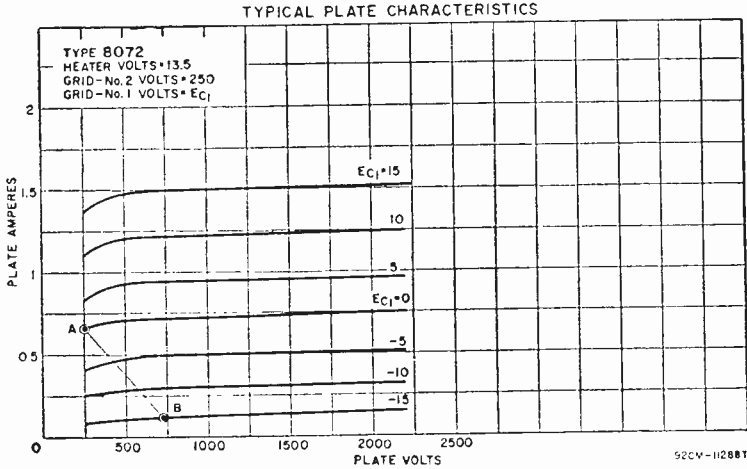
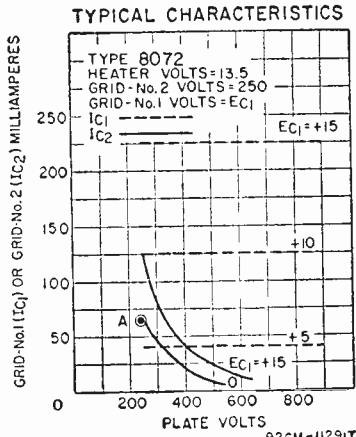

Fig. 46
Fig. 47
The operating conditions for a class AB1 linear rf amplifier used in single-sideband service can be estimated from the load line plotted on a set of plate characteristics. The typical plate and grid-No.2 characteristic curves shown in Figs. 46 and 47 are used in the following
(3) Select a value of zero-signal plate current ( $I_{b0}$ ) between 1/6 and 1/10 of  $I_{bmax}$  found in (2). Locate  $I_{b0}$  at selected  $E_b$  and construct a load line to the point found in (2). In general, the
(5) Determine the grid-No.1 bias ( $E_{c1}$ ) from graph at the point of zero signal found in (3).
(6) DC plate current at peak of envelope ( $I_{b0}$ ) is approximately equal to  $I_{bmax}/3$ .
(7) Average dc plate current ( $I_1$ ) is equal to  $I_{b0}/1.4$ .
(8) Determine peak grid-No.2 current ( $I_{c2max}$ ) from Fig. 47 at conditions in (2).
(9) DC grid-No.2 current at peak of envelope ( $I_{c20}$ ) is approximately equal to  $I_{c2max}/4$ .
(10) Average grid-No.2 current ( $I_{c2}$ ) is approximately equal to  $I_{c20}/1.4$ .
(11) Average grid-No.2 dissipation ( $P_{r2}$ ) is approximately equal to  $E_{c2} \times I_{c2}$ .
(12) Peak Envelope Power input ( $P_{110e}$ ) is equal to  $E_b \times I_{b0}$ .
(13) Peak Envelope Power output (PEP) is equal to  $(I_{bmax}/4) (E_b - E_{bmin})$ .
(14) Average Plate Dissipation ( $P_p$ ) is equal to  $0.7 P_{110e} - 0.5 PEP$ .
(15) Average Power Output ( $P_o$ ) is equal to  $PEP/2$ .
(16) Effective rf load resistance ( $R_p$ ) is equal to  $2(E_b - E_{bmin})/I_{b0}$ .
(1) The plate voltage is selected to be 700 volts; grid-No.2 voltage, 250 volts.
(2) On Fig. 46 plot the maximum-signal point at knee of  $E_{c1} = 0$  curve (point A). Read  $I_{b_{max}} = 0.65$  ampere. Locate  $E_{b_{min}}$  at 250 volts.
(4) On Fig. 46 plot the minimum-signal point at  $E_b = 700$  volts and  $I_{b_0} = 0.10$  ampere (point B).
(5) On Fig. 46 read  $E_{c1}$  at  $-15$  volts at minimum-signal point B.
(6) Calculate:  $I_{b_e} = I_{b_{max}}/3 = 0.650/3 = 0.22$  ampere.
(7) Calculate:  $I_b = I_{b_e}/1.4 = 0.22/1.4 = 0.16$  ampere.
(8) On Fig. 47 locate point A at  $E_b = 250$  volts and  $E_{c1} > 0$  on grid-No.2 current curves. Read  $I_{c_{2max}} = 0.065$  ampere.
(9) Calculate:  $I_{c_{2e}} = I_{c_{2max}}/4 = 0.065/4 = 0.016$  ampere.
(10) Calculate:  $I_{c_2} = I_{c_{2e}}/1.4 = 0.016/1.4 = 0.011$  ampere.
(11) Calculate:  $P_{c_2} = E_{c_2} \times I_{c_2} = 250 \times 0.011 = 2.7$  watts. Verify that grid-No.2 dissipation is within rating.
(12) Calculate:  $P_{lne} = E_b I_{b_e} = 700 \times 0.22 = 154$  watts.
(13) Calculate:  $PEP = (I_{b_{max}}/4)(E_b - E_{b_{min}}) = (0.650/4)(700 - 250) = 73$  watts.
(14) Calculate:  $P_v = 0.7 P_{lne} - 0.5 PEP = 0.7(154) - 0.5(73) = 71$  watts.
(15) Calculate:  $P_o = PEP/2 = 73/2 = 36.5$  watts.
(16) Calculate:  $R_p = 2(E_b - E_{b_{min}})/I_{b_{max}} = 2(700-250)/0.65 = 1384$  ohms.